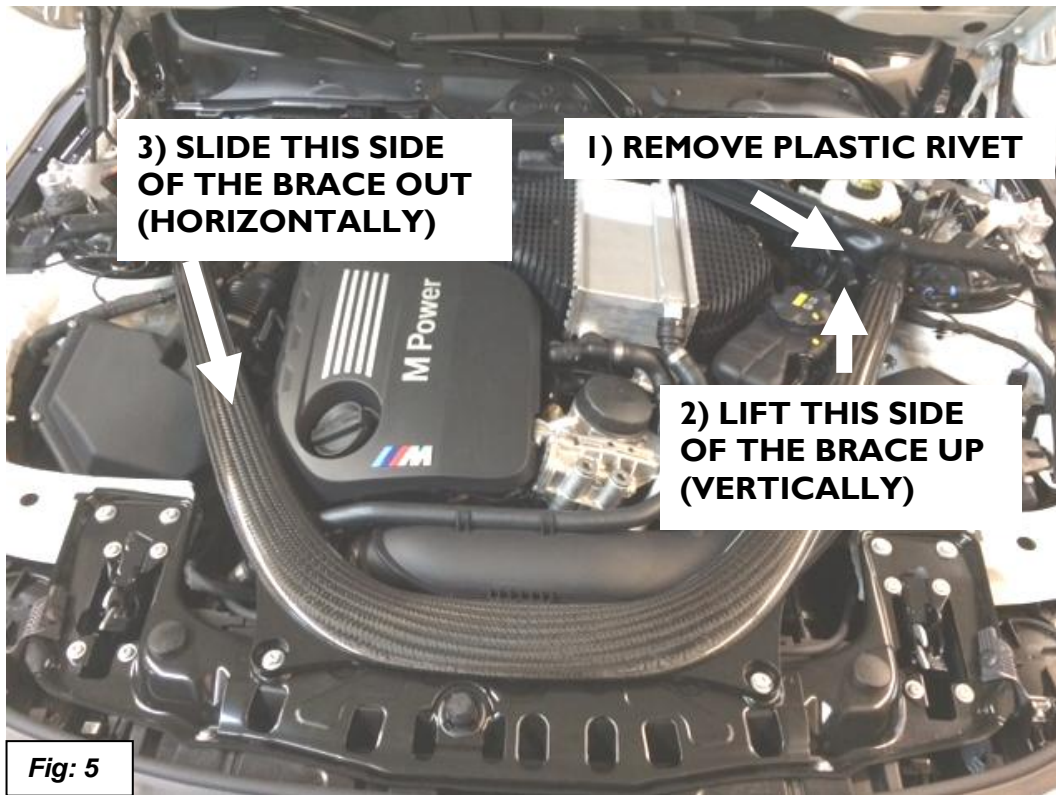

Fig: 5
4. Remove the carbon brace as shown in Figure 5.